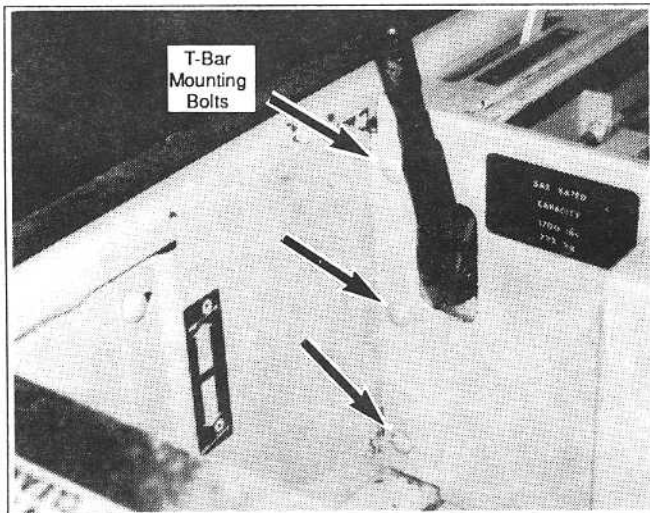

Figure 3-9
At right hand side - remove the three (3) carriage bolts at the corner of the T-Bar panel and mounting flange. (See figure 3-9 on page 3-5)